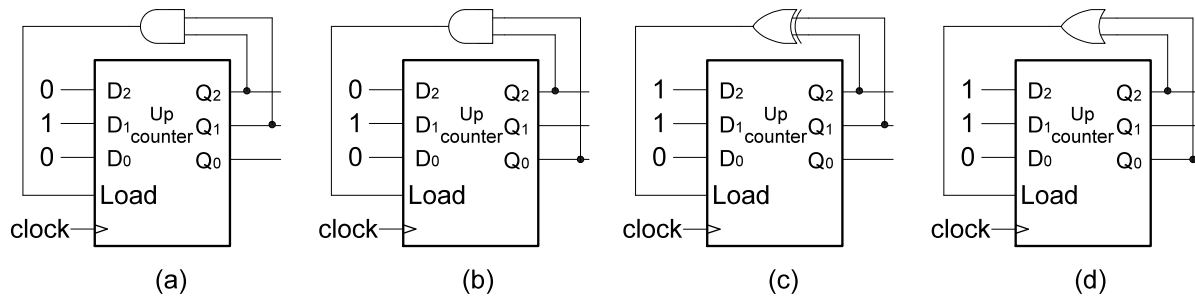

Figure 9 - Circuits for question 14 (it is assumed that after power up the state is 010).
1. Figure 9(a)
2. Figure 9(b)
3. Figure 9(c)
4. Figure 9(d)